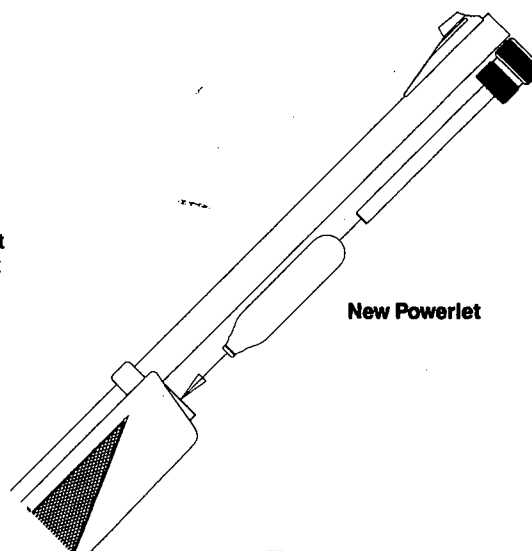

Fig. 3
- Insert the new CO2 Cylinder into the rifle with the small neck of the cylinder pointing toward the rear of the gun. (Fig. 3)